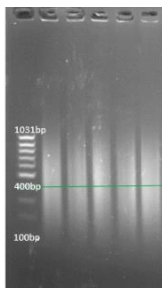

Figure 1 The 1.5% agarose gel test of Fragmentation product
**Note:** For the first fragmentation test, it is recommended to take 5  $\mu$ L product from 80  $\mu$ L mixture in Step 3.2.7 and run on a 1.5% agarose gel to ensure the smear size is between 150-1000 bp (Figure 1), with the peak size between 300-500 bp. If the size is too large or too small, titrate the 32  $^{\circ}$ C-incubation time from Table 9. For samples which cannot reach the ideal fragmentation size by incubation time titration, we recommend re-purifying the sample DNA with 1.5x magnetic beads and eluting into Nuclease-Free Water. After re-purification, re-titrate the incubation time (3-10 min is recommended).